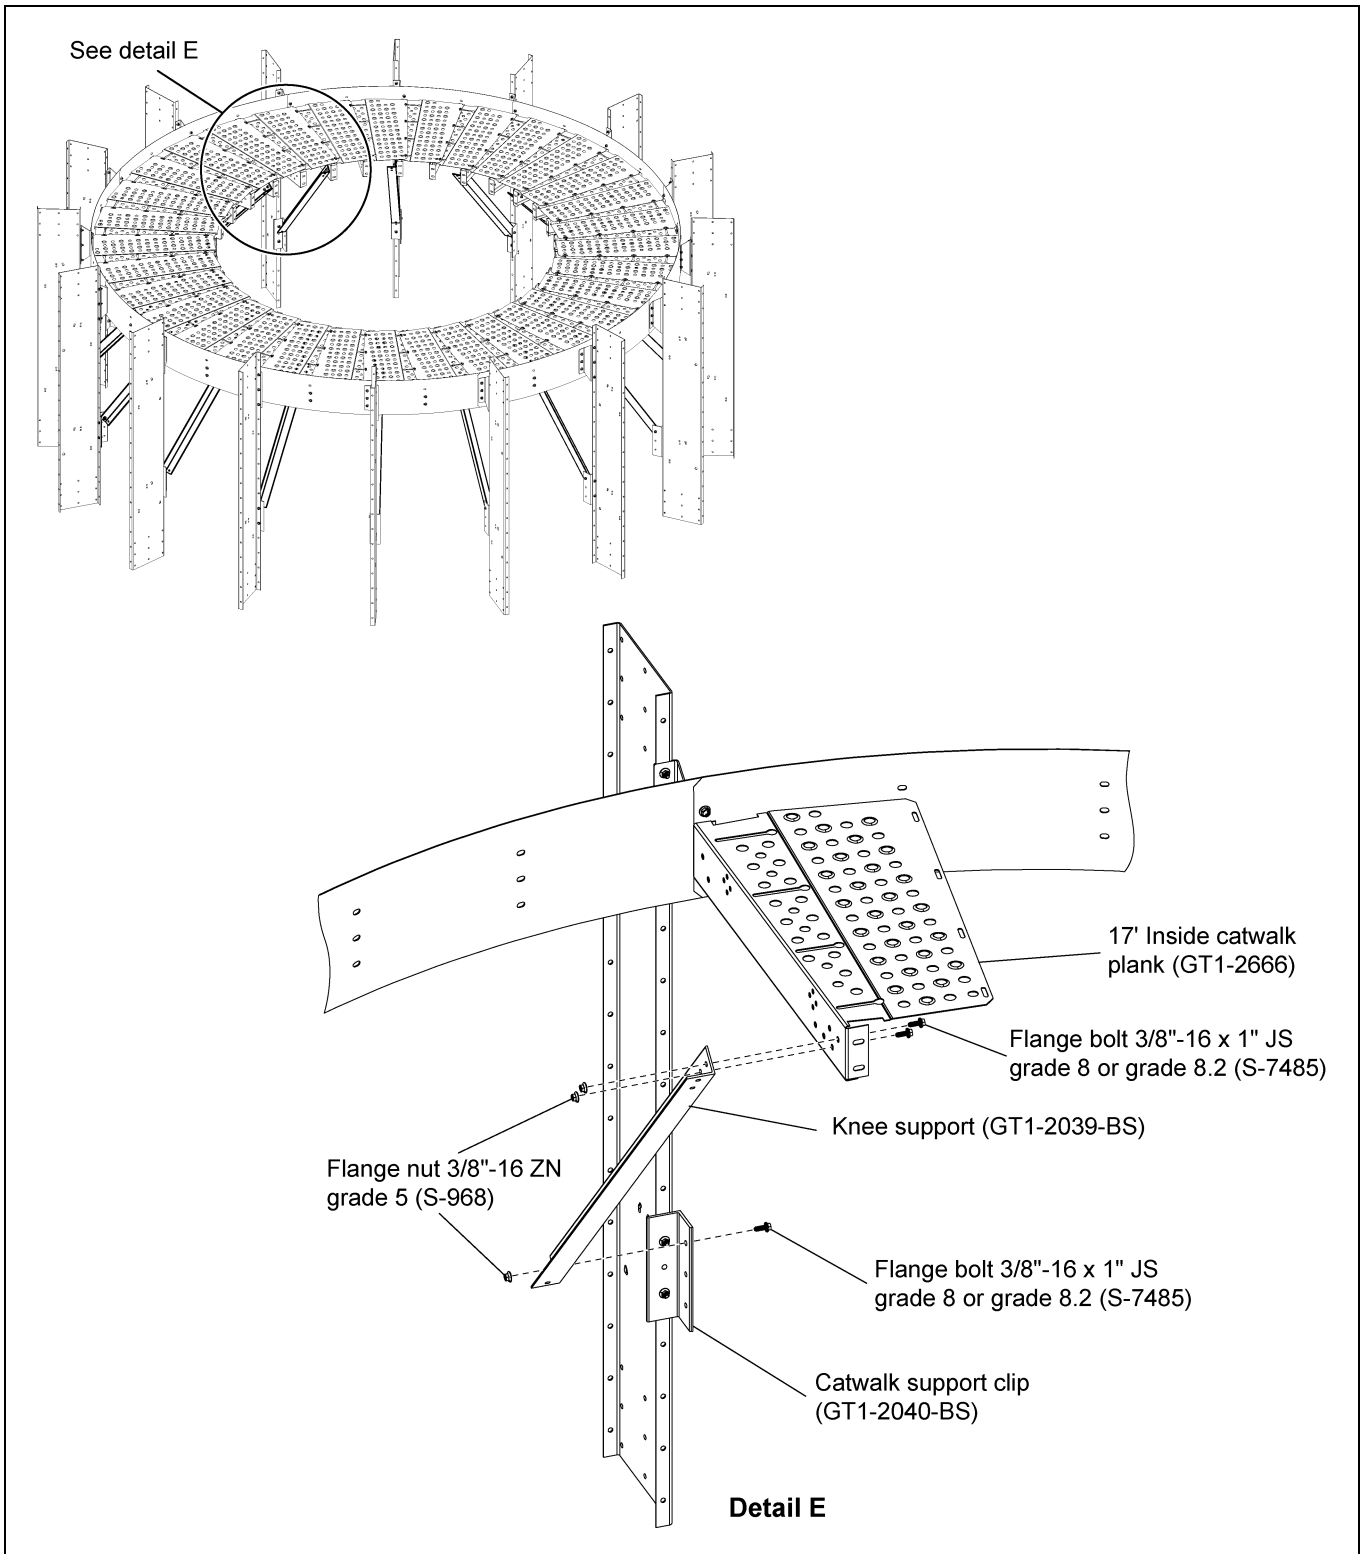

Figure 5I
1. Install the knee support (GT1-2039-BS) around the dryer between the catwalk support clips (GT1-2040-BS) and planks (GT1-2666) using 3/8"-16 x 1" JS grade 8 or grade 8.2 bolts (S-7485) and 3/8"-16 ZN grade 5 nuts (S-968). (See Figure 5I.)